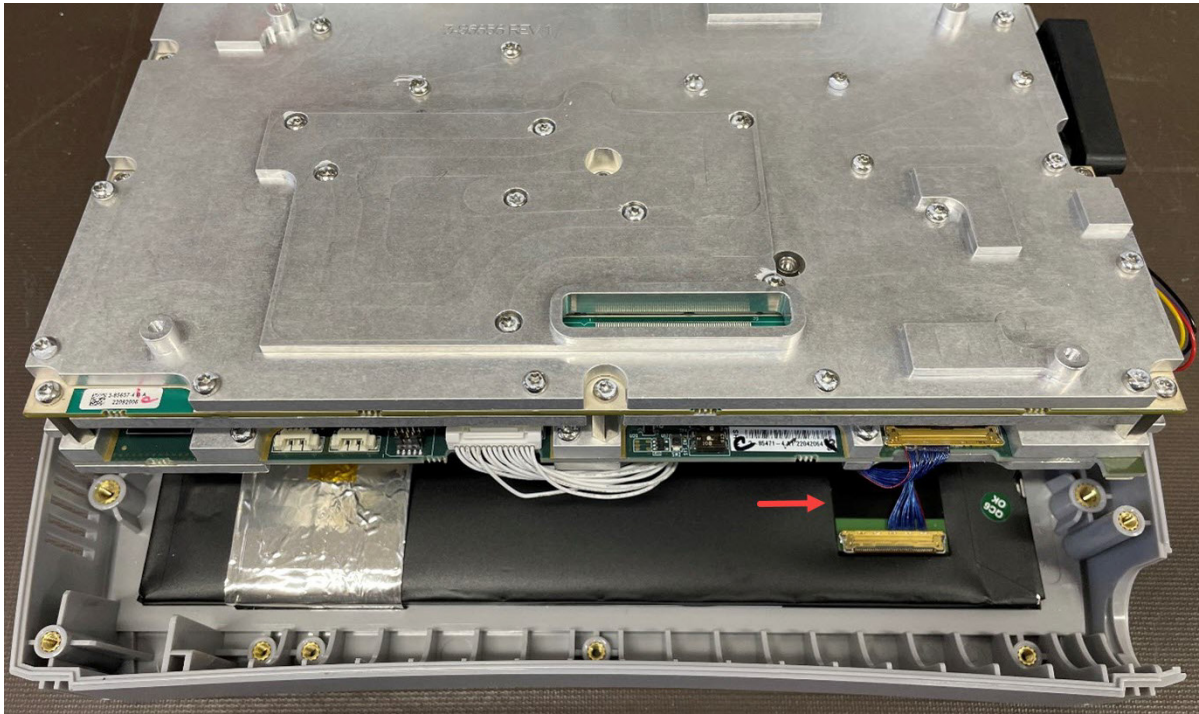

Figure 5-10. Display Cable
7. Carefully tilt the Main PCB/SPA PCB assembly to view the display cable. See Figure 5-10.